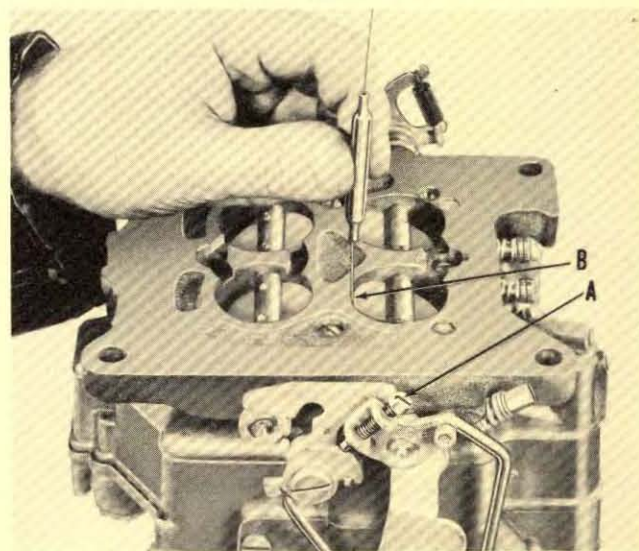

Fig. 13
B. With choke valve tightly closed, adjust fast idle adjusting screw, "A" Fig. 13, until a .023" wire gauge Tool No. T109-189 can be inserted between the rear
side of the primary throttle valves and the throttle body bore, "B" Fig. 13. Be sure fast idle adjusting screw is on high step of cam while making this adjustment.